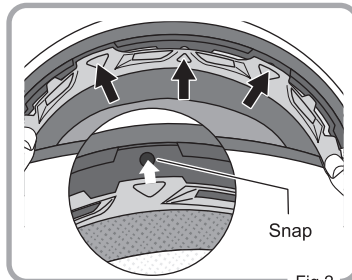

Fig.2
- 2.Insert the 3 snaps on the front as shown in Fig.2.